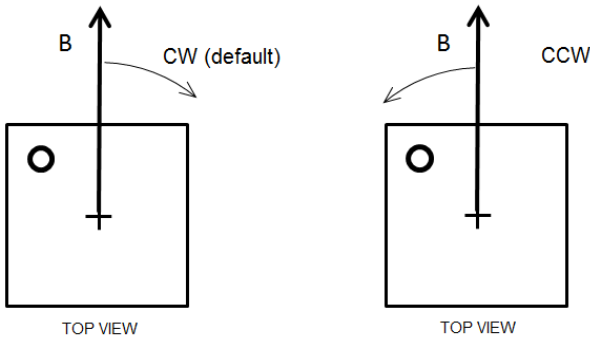

Figure 24: Positive Rotation Direction of the Magnetic Field
By default, when looking at the top of the package, the angle increases when the magnetic field rotates clockwise (CW) (see Figure 24 and Table 10).